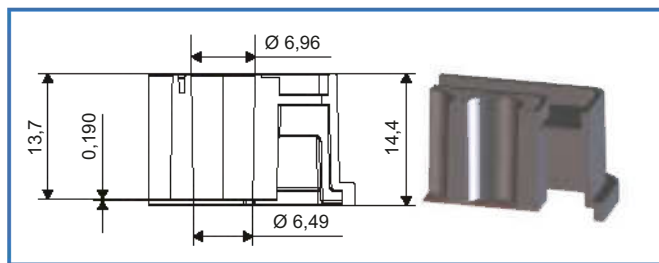

Figure 2: Well design of a 96 well SCREENSTAR microplate
- Round well geometry (Fig. 2) to reduce optical distortions